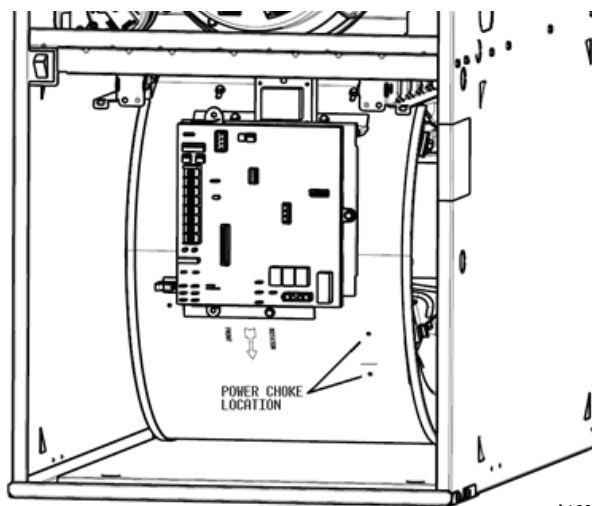

Fig. 1 - Power Choke Location
1. Locate existing holes on the front of the blower housing that will be used to mount the power choke. See Fig 1.